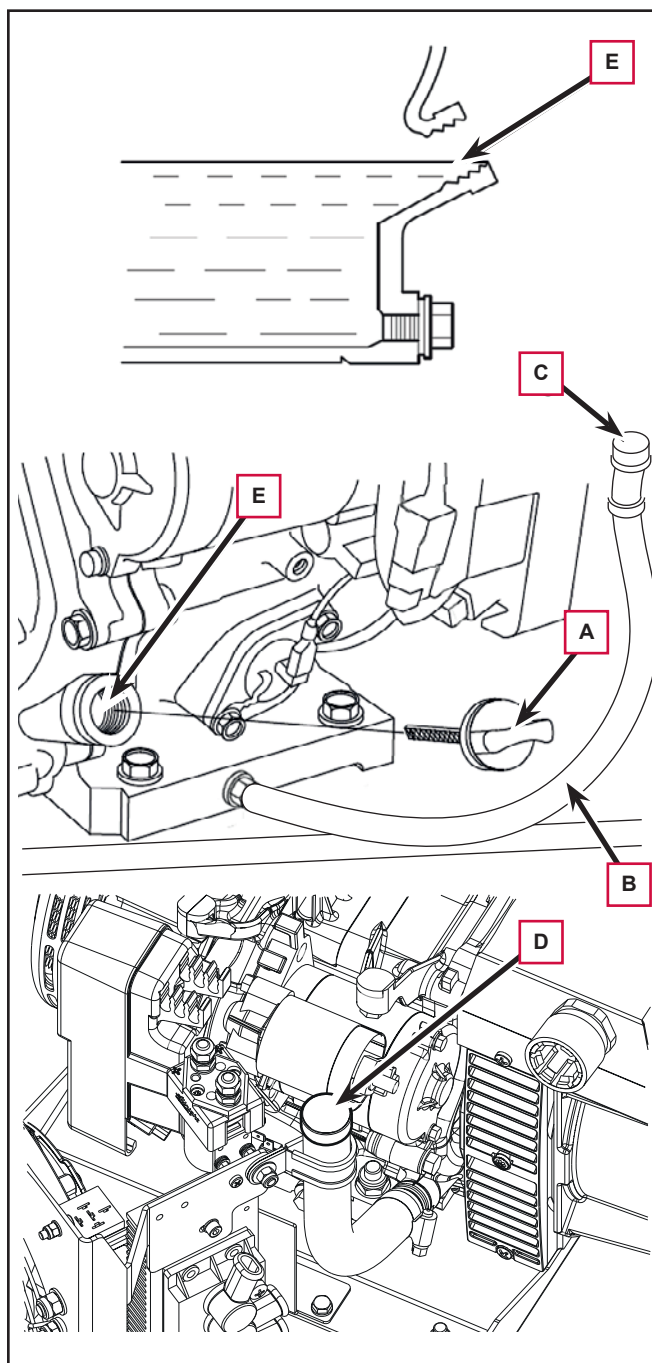

Figure 7
5. Remove the cap (A, Figure 7).
6. Unhook the drain hose (B) and bring it towards the outside of the machine.
7. Remove the drain plug (C) from the hose and drain the oil into a suitable container, then refit the oil drain plug and return the hose to its initial location.
8. Remove the filler cap (D) and pour in the new oil through the filler until it reaches the upper limit (E) of the cavity.